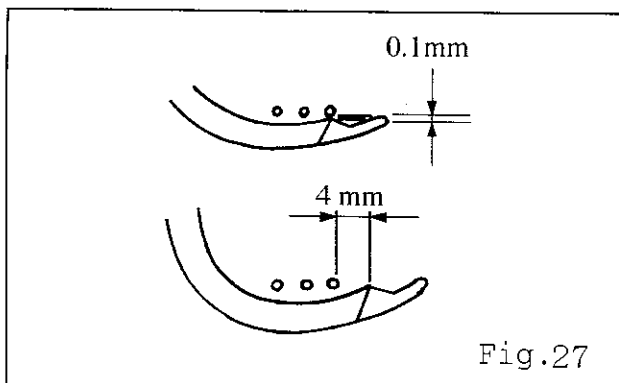

Fig.27
2. When the Needle Bar lifts to the highest position and the Spreader moves to extreme right, the distance between the right needle and the hook's point of Spreader is 4 mm. When the Spreader passes the right needle, the clearance between the hook's point of Spreader and right needle is 0.1mm. (Fig 27)